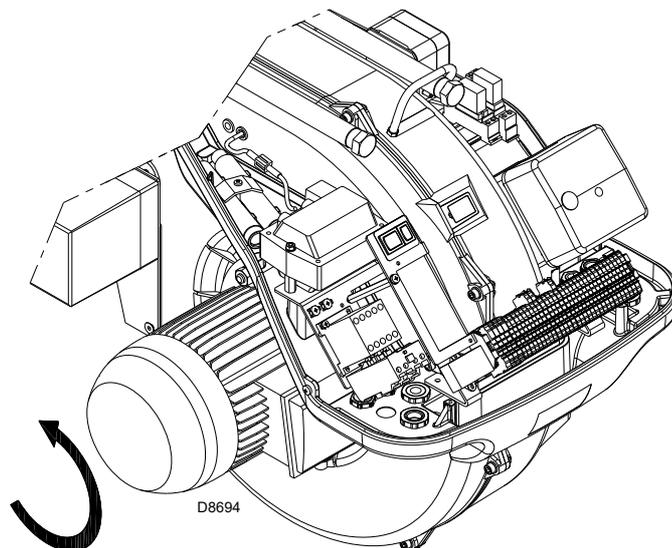

Fig. 29
- check the fan rotation direction through the flame inspection window (Fig. 29);
- check the fan motor rotation direction, as shown in Fig. 29.